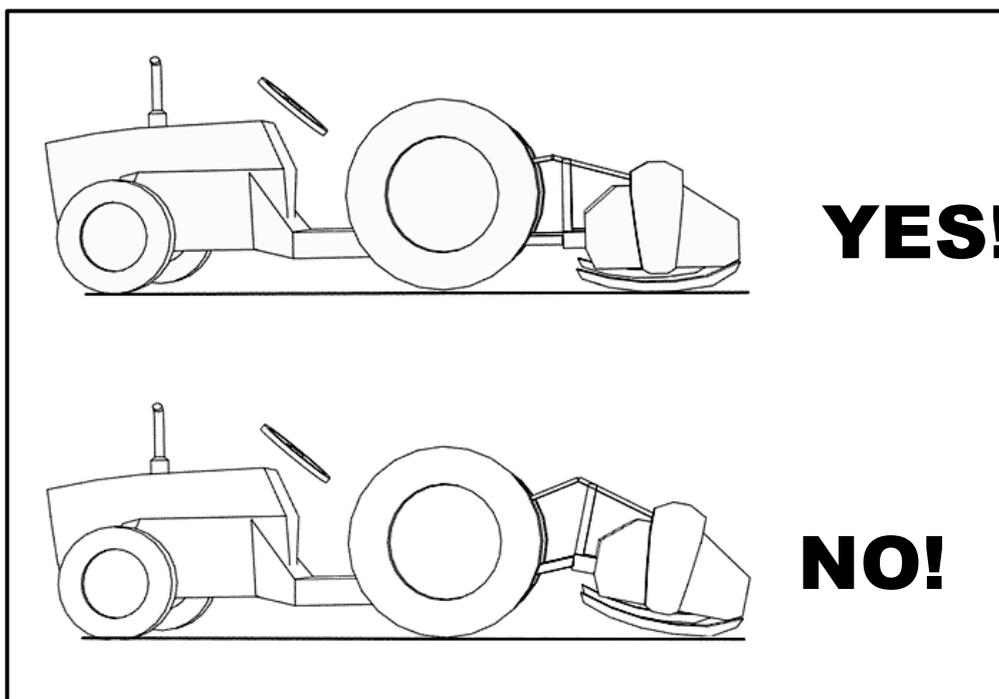

Fig.2
- Lower the mower and adjust it so that it is parallel to the ground. Do this by adjusting the 3rd point drawbar (fig. 2). This will improve the life-span of the machine and the PTO.
If your mower is equipped with two front wheels, the cutting height adjustment is carried out by adjusting the spacers of each wheel. (fig. 2)